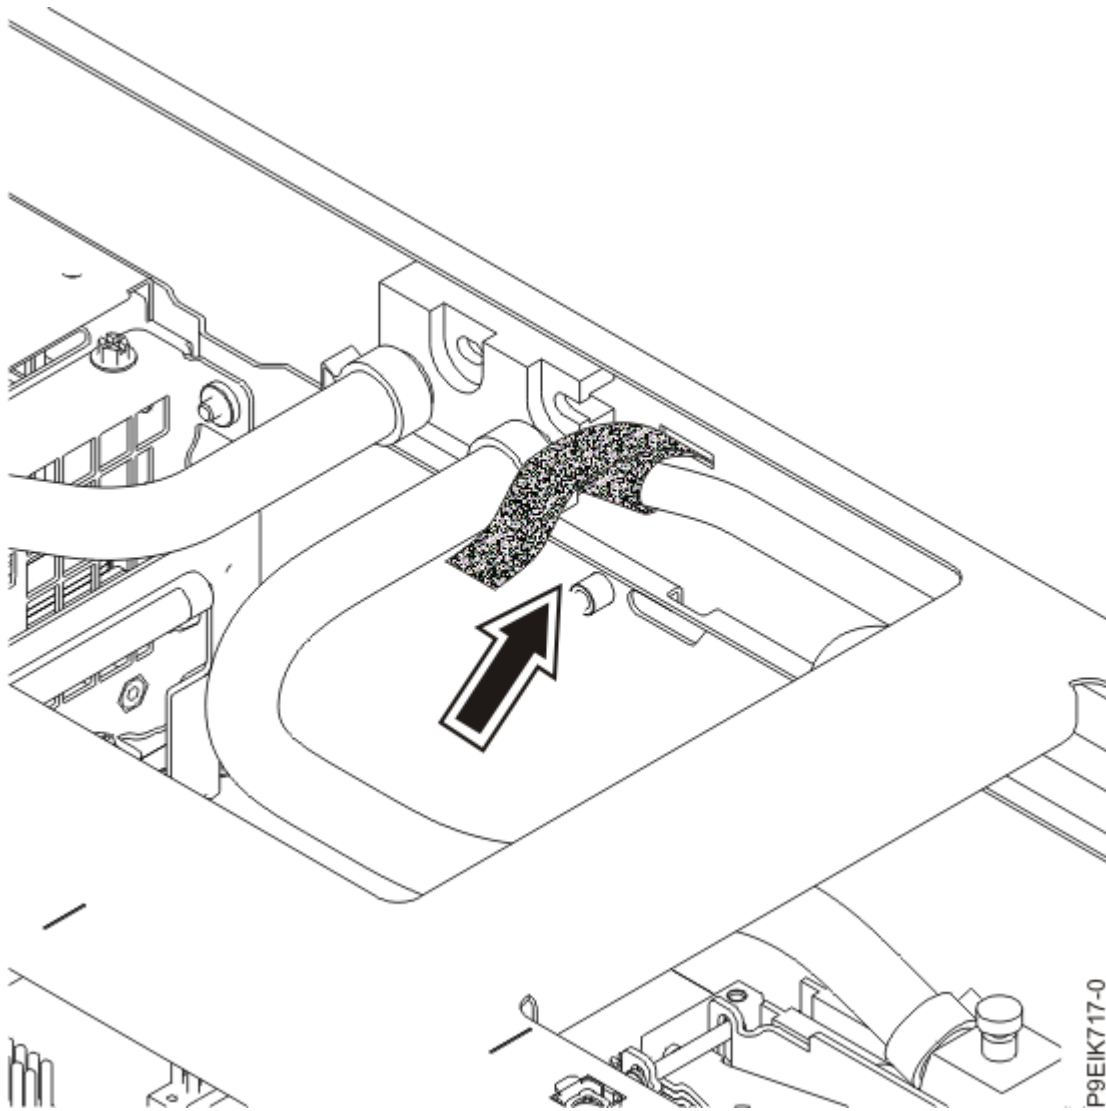

Figure 19. Securing the front of the side pipe
16. At the front of the system, lift the side pipe up. Support it on the pins and fasten the front of the side pipe to the cold plate installation carrier as shown in Figure 19 on page 23.